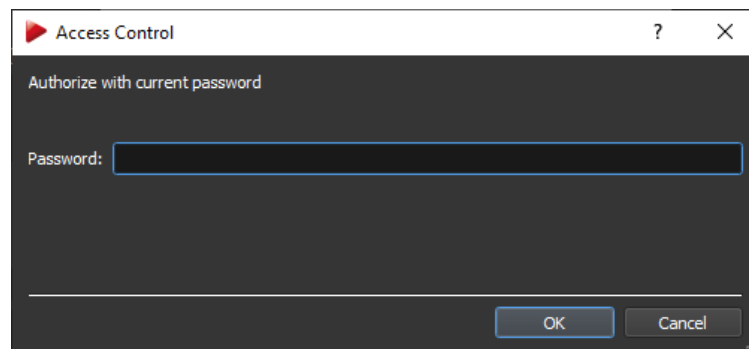

Figure 7.2: Authorize Access control
password. Enter the password and press *OK* once again. Please refer to figure 7.2 on page 58. The password protection feature is disabled and the previously set password is deleted.
**Change the currently set password** In the dialog enter your new password in the entry fields '*New password*' and '*Repeat password*' respectively, then press *OK*. A warning message will appear next. If you are sure press *OK* to change the password. Otherwise press *Cancel* to return to the dialog. In the last step you will be prompted to enter the current password. Enter the password and press *OK* once again. Please refer to figure 7.2 on page 58. The password will be changed and the dialog is closed.